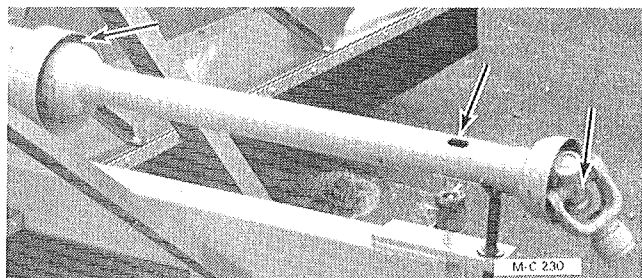

Figure 13
1. Power take-off shaft universal joints. One fitting in each yoke. One fitting in the telescoping spline shaft. See Figure 13.